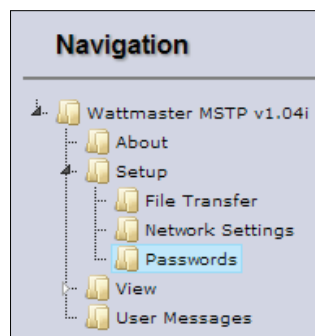

Figure 27: Setup - Passwords
5.) In order to return to the *Passwords Window*, in the *Navigation Window* on the left of the FS-GUI Screen, *click* **<Setup>** and then *click* **<Passwords>**. See **Figure 27**. The *Passwords Window* will appear.